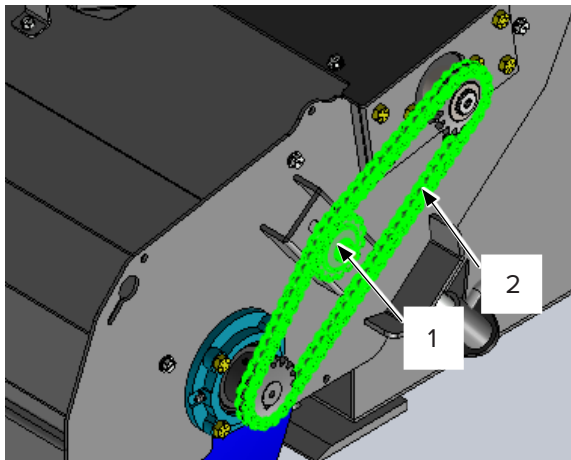

Figure 5
5. Loosen the chain tensioner sprocket [Figure 5, Item 1], and remove the chain [Item 2].
5. Loosen the chain tensioner sprocket [“Figure 5” on page 21, Item 1], and remove the chain [Item 2].
6. Loosen the chain tensioner sprocket ["Figure 5" on page 21, Item 1], and remove the chain [Item 2].